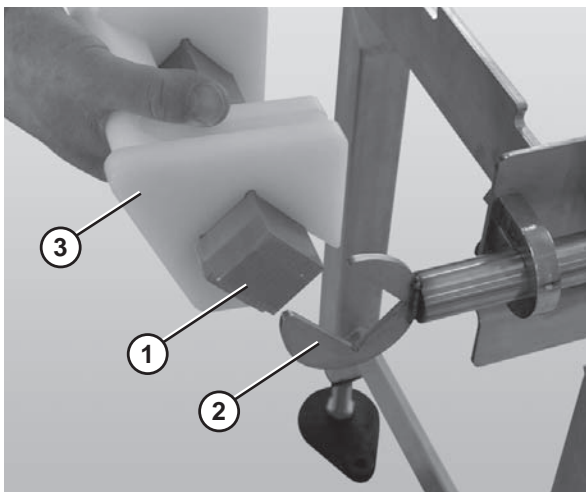

Figure 68
- Slide the nose bar drive or transfer post (**Figure 68, item 1**) out of the nose bar drive weldment or idler hands (**Figure 68, item 2**).
- Remove the nose bar tracking pucks (**Figure 68, item 3**), if applicable.